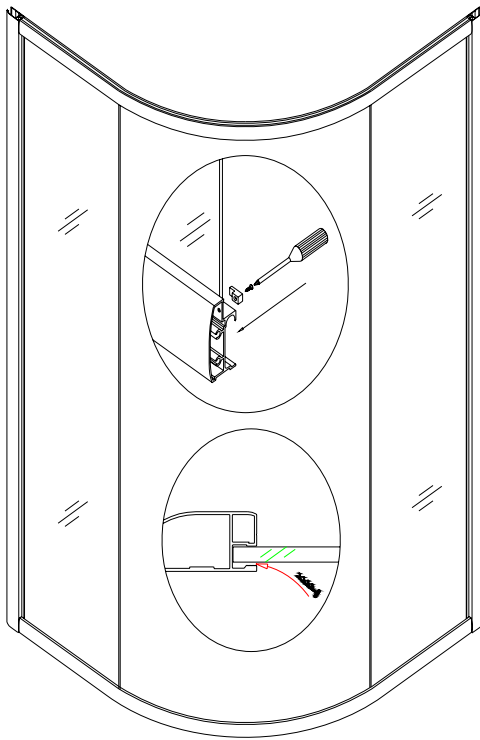

Fig 3
6. Insert the stationary glass panels into the frame of the vertical profiles and the guide rails. Use the stationary glass holders to secure the glass in the frame. Tap in the single side strip to make the connection waterproof (fig 3);